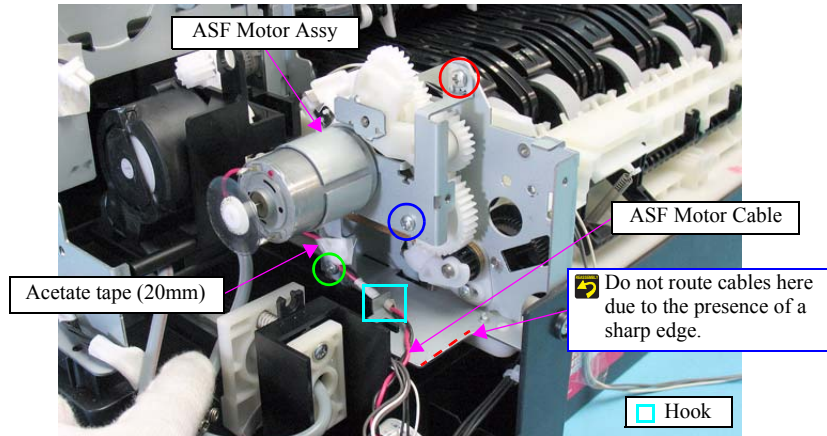

Figure 4-154. Removing the ASF Motor Assy
- Route the ASF Motor Cable as shown in Figure.4-154.